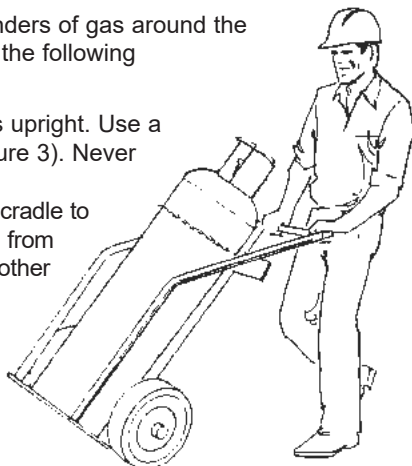

Figure 3
- Keep cylinders upright. Use a hand cart (Figure 3). Never roll cylinders.